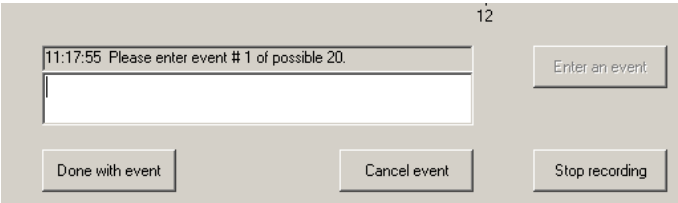

Figure 28. Profox Event Box
1. During the monitoring process, click *Enter an event* in the Real-time Data Collection screen. The Profox Event Box (seen in Figure 28. Profox Event Box, below) will appear inside the Real-time data Collection screen.